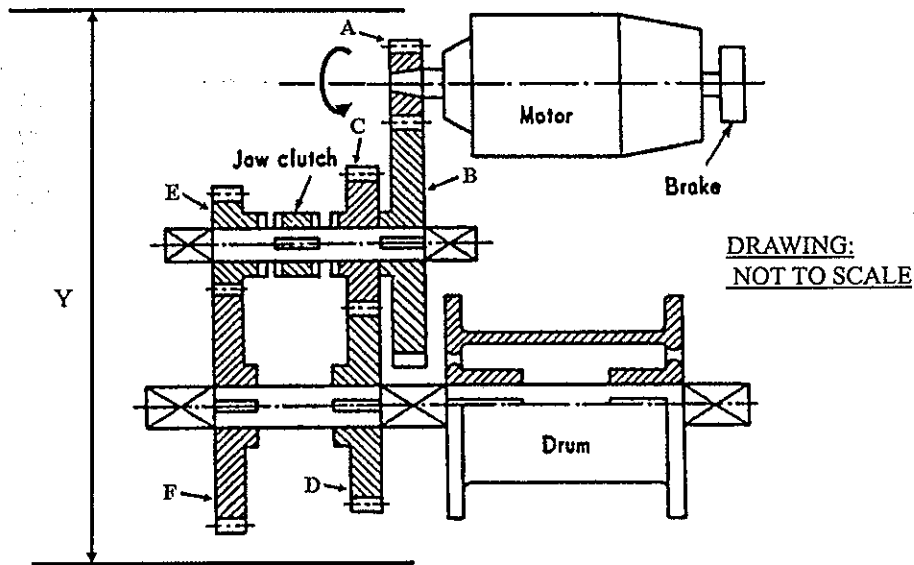

Figure 5
3. A two-speed hoisting winch is shown in Figure 5. The motor drives the drum through helical gears A, B, C and D when the jaw clutch is shifted to the right to give a lower output speed; and through helical gears A, B, E and F when the jaw clutch is shifted to the left to give a higher output speed. The motor transmits 25kW and rotates at 900 rpm in the direction shown in the figure. Data regarding the gears are shown in Table 1. Gears A, C and F are left-handed while gears B, D and E are right-handed.